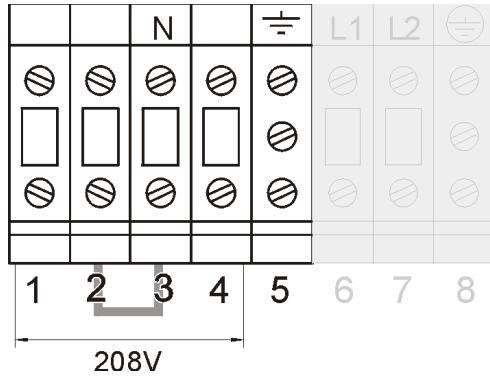

Figure 12. LP11 924 6&10 kVA:
1. Check there is an insertion bridge between terminals 2 and 3 (Fig.12)
3. Connect the output wires to the terminals 1 (L1) and 4 (L2). Connect the ground wire to terminal 5. Ground connection is essential! See figure 12.